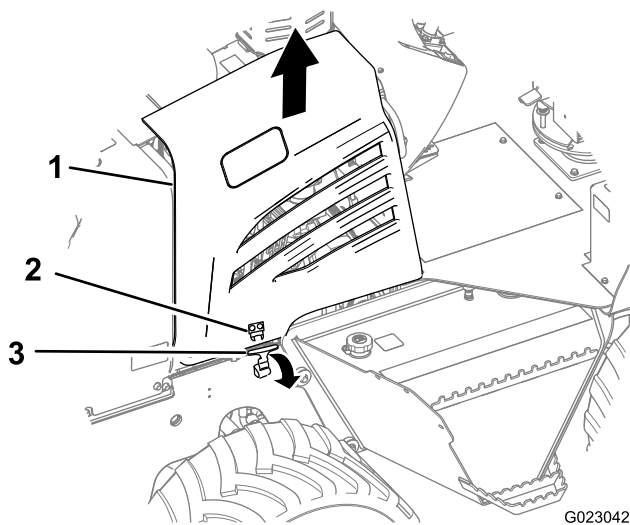

Figure 36
2. Pull up on the hand grip of the panel latch, and swing the latch free from the anchor bracket (Figure 36).
3. Lift the side panel straight up and remove it from the machine (Figure 36).
4. Pull the hand grip of the panel latch outward, then pivot it up until it aligns in the anchor bracket (Figure 36).